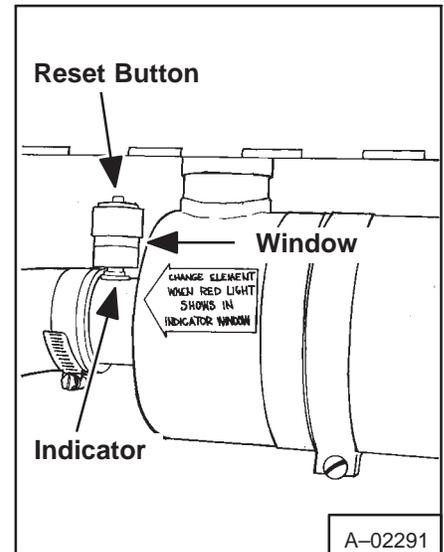

Fig. 1-14 Condition Indicator
2. Make replacement of the filter cartridge (element) only when the red ring shows in the sight window of the condition indicator (Fig. 1-14).